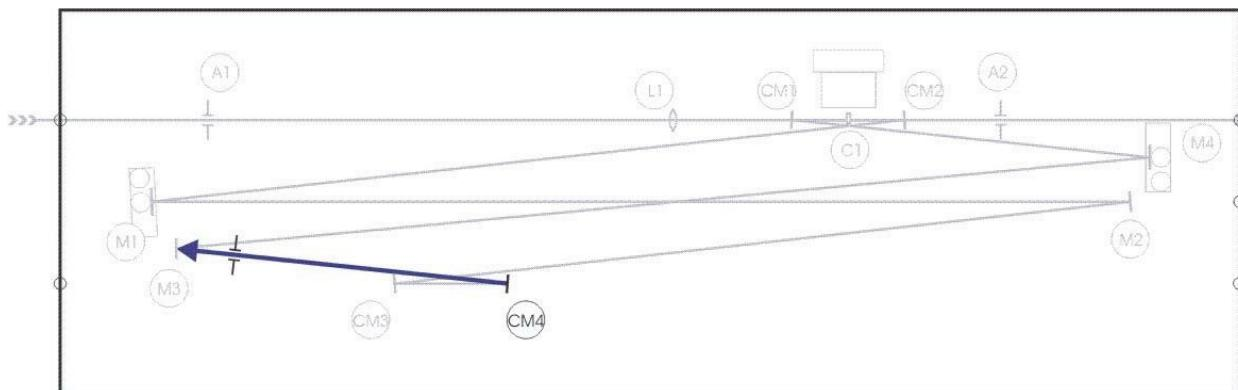

Figure 5.14.: Align CM4 to center green pump spot on M3. Use plug aperture position **A8**.
- Place the plug aperture at position **A8**. Adjust CM4 to center the spot on M3 (Fig. 5.14).